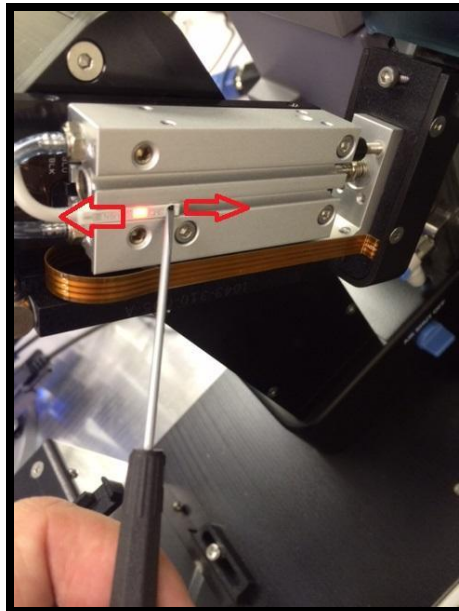

Figure 3.
- Using a small, flat head screwdriver, loosen the black set screw, and slide the sensor forward or backward until the red LED light is active. (The screwdriver is pictured on the set screw in Figure 3.)